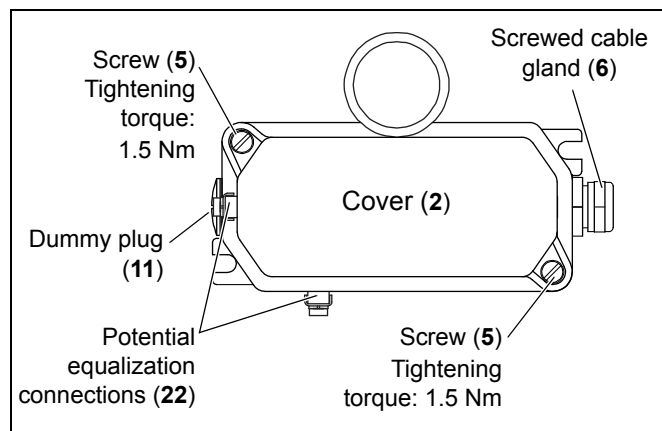

Fig. 5-13: Commissioning the belt misalignment switch
2. Loosen the potential equalization connections (22) on the cover (2) and the enclosure (1) (see fig. 5-13).
3. Open the cover (2) by loosening the two screws (5).
4. Remove the screwed cable gland (6).
5. Disconnect all electrical connections and pull the cables out of the screwed cable gland (6).